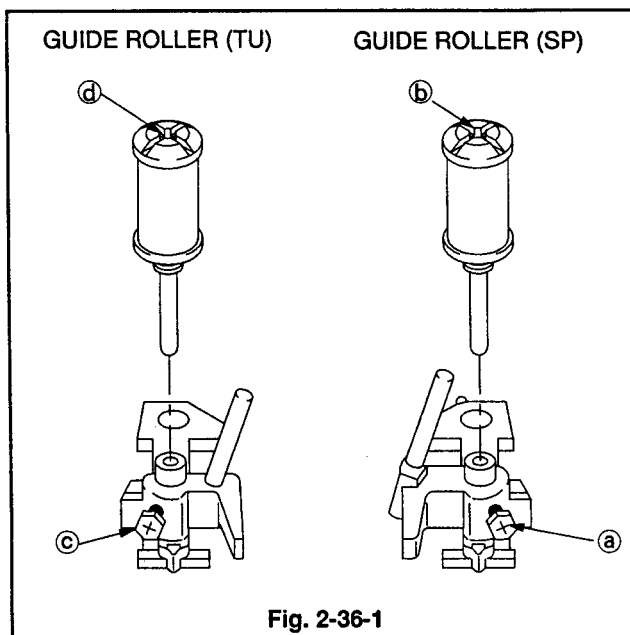

Fig. 2-36-1
1. Loosen the GUIDE ROLLER (SP) set screw (a) with an L SHAPED BOX DRIVER (859C433O70) so that the GUIDE ROLLER (SP), shown in Fig. 2-36-1. Rotates freely.
2. Use the height adjustment screw driver to turn the GUIDE ROLLER (SP) height adjustment screw (b) counter-clockwise, and remove the GUIDE ROLLER (SP), refer to Fig. 2-36-1.
3. Loosen the GUIDE ROLLER (TU) set screw (c) with an L SHAPED BOX DRIVER (859C443O70) so that the GUIDE ROLLER (TU) shown in Fig. 2-36-1. Rotates freely.
4. Turn the height adjustment screw (d), at the top of the GUIDE ROLLER (TU), counter-clockwise with a height Adjustment Driver to remove the GUIDE ROLLER (TU), refer to Fig. 2-36-1.
1. Insert the GUIDE ROLLER (TU) shown in Fig. 2-36-1 into the installation hole on the TAPE GUIDE ASSY (TU).
3. Lightly tightened the GUIDE ROLLER (TU) set screw (c), shown in Fig. 2-36-1.
4. Insert the GUIDE ROLLER (SP), shown in Fig. 2-36-1, into the installation hole on the TAPE GUIDE ASSY (SP).
6. Lightly tightened the GUIDE ROLLER (SP) set screw (a) shown in Fig. 2-36-1.
8. Clean the GUIDE ROLLER (SP) and GUIDE ROLLER (TU) with Dry Gauze.